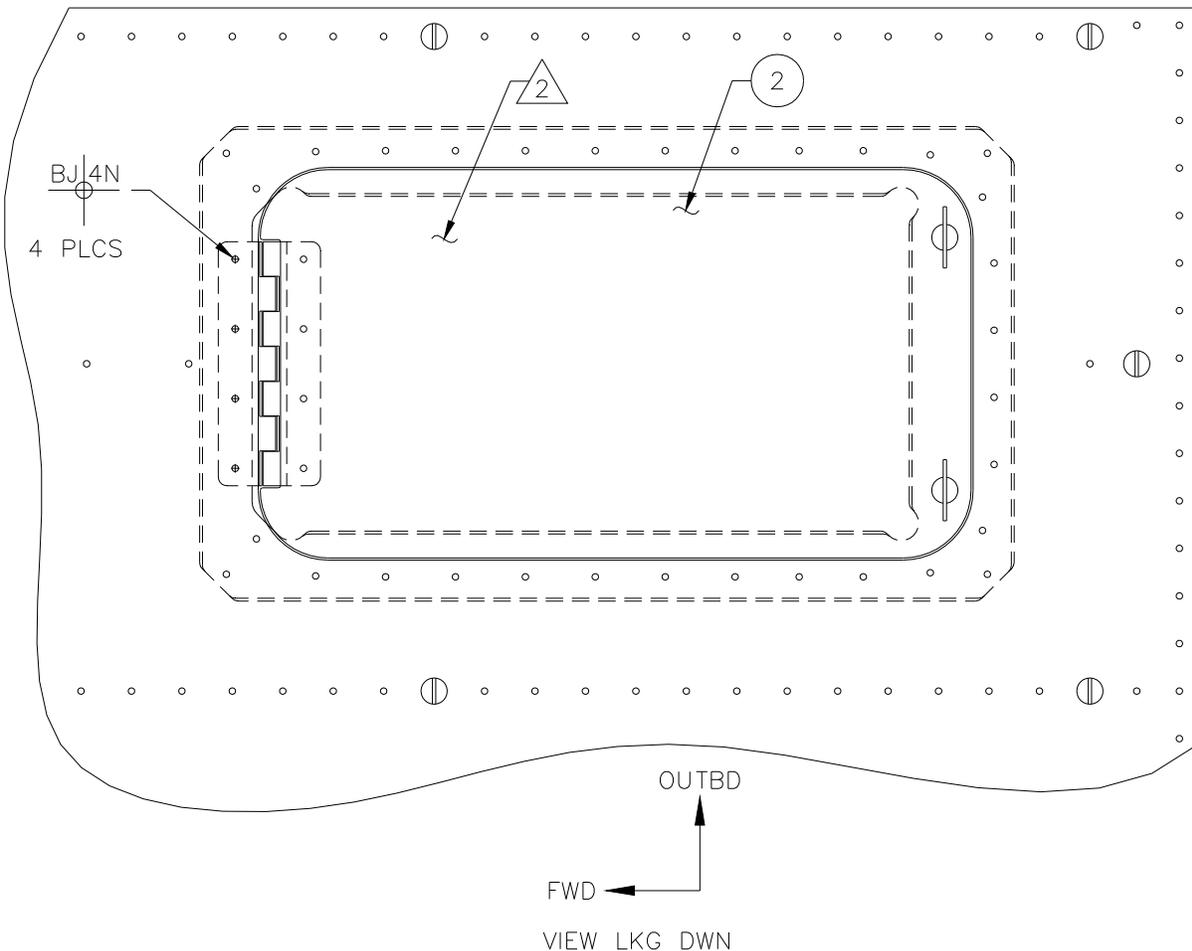

Figure 3
6. Cleco the Door Assembly, Item 2, on the inner side of the Frame Assembly and check the operation of the door and the location of the door in the cowling cutout. Reference Figure 3.
7. Open the remaining rivet holes in the cowling/Frame Assembly and Door Assembly as required and rivet the Door Assembly to the cowling/Frame Assembly as shown. Reference Figure 3.